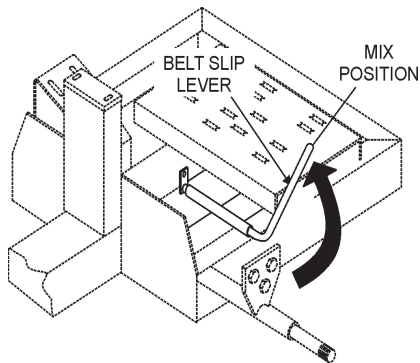

Figure 20. Belt Slip Lever (Mix Position)
- Place the belt slip lever (Figure 20) in the *mix* position. This will tilt the engine placing tension on the V-belts enabling the shaft to rotate.
1. Place the **belt slip lever** in the **start/stop** position (Figure 20).